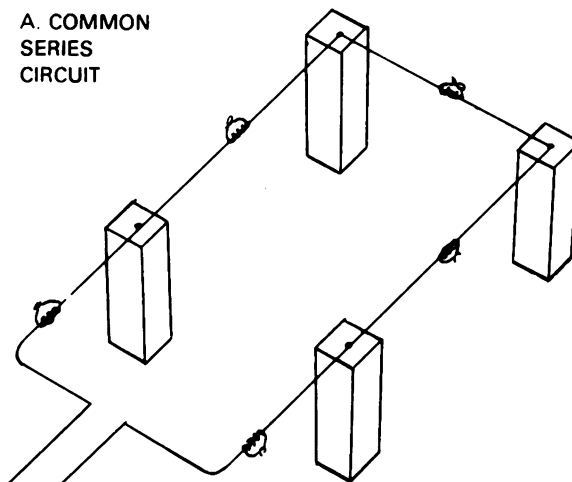

Figure 6a.
(1) Common series is used for connecting two or more charges fired electrically by a single blasting machine. A common series circuit is prepared by connecting one blasting cap lead wire from the first charge to one lead wire in the second charge and so on until only two end wires are free, then connecting the free ends of the cap lead wires to the ends of firing wire. Connecting wires (usually annunciator wire) are used when the distance between blasting caps is greater than the length of the usual cap lead wires (figure 6a).